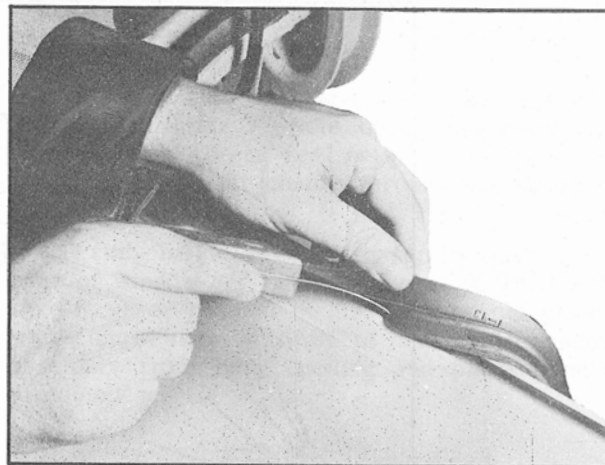

Fig. 17-55 Installing Rear Compartment Weatherstrip
5. When installing remainder of weatherstrip, insert edge of weatherstrip into gutter before using inserter tool in manner shown in Fig. 17-55.
(91) Rear Compartment Lid Hinge Removal, Installation and Adjustment